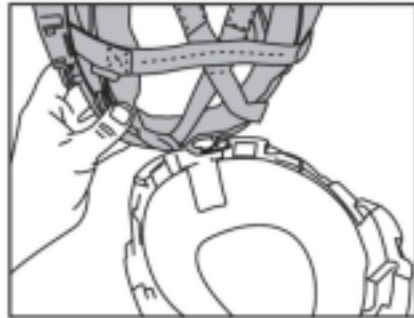

Fig. 4a
- (1) Connect the impact liner to the suspension ring (see Fig. 4a and 4b), starting from the front attachment area.